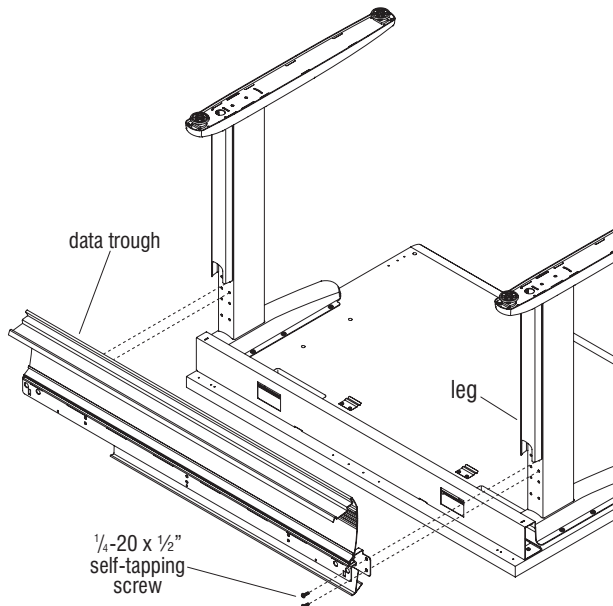

Figure 4
4. Attach data trough to legs using $\frac{1}{4}$ -20 x $\frac{1}{2}$ " self-tapping screws. The set of holes used will depend on whether the trough is being attached to a shared or end-of-run leg. When correctly positioned, the plastic door with ridges (shown in figure 4) will be to the outside (instructor side) of the table and the smooth, rounded plastic door will be to the inside (student side) (Figure 4).